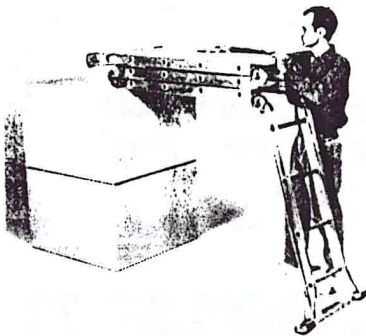

FIGURE 3.
- 4) Position plank on scaffold and tie each end of plank to scaffold as shown in figure 3.